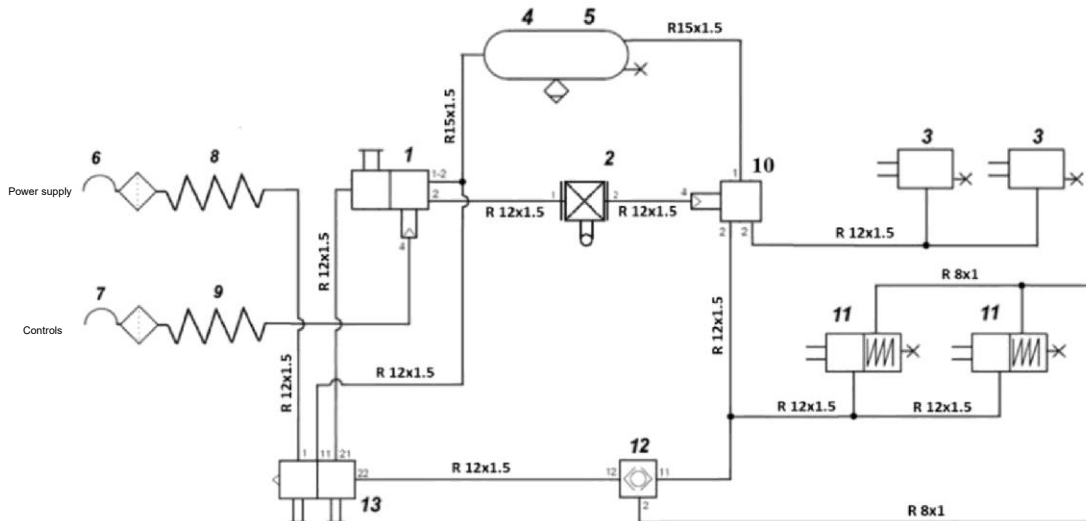

Figure 12. ALB 2-line pneumatic brake system
The N272/3, N272/6, N272/7 and N272/8 Spreaders are fitted with a 2-line pneumatic brake system with ALB (automatic brake force controller), see Figure 12. The brake is activated from the driver's seat by pressing the brake pedal of the tractor. The pneumatic control valve (1) enables the spreader's brakes simultaneously with the tractor's brakes. In the event of an accidental disconnection of the lines (8) and (9) the control valve will automatically activate the brakes of the machine. The ALB system features a valve (2) which automatically and continuously adjusts braking force on the spreader wheels according to the load level of the body.